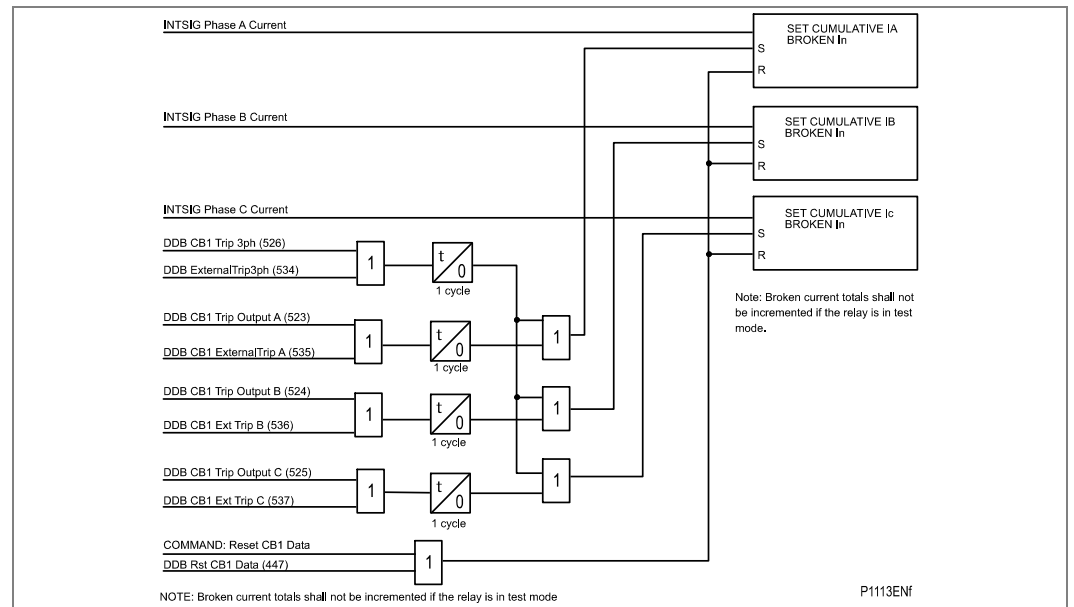

Figure 128 - CB1 condition monitoring – broken current
- Figure 128 - CB1 condition monitoring – broken current